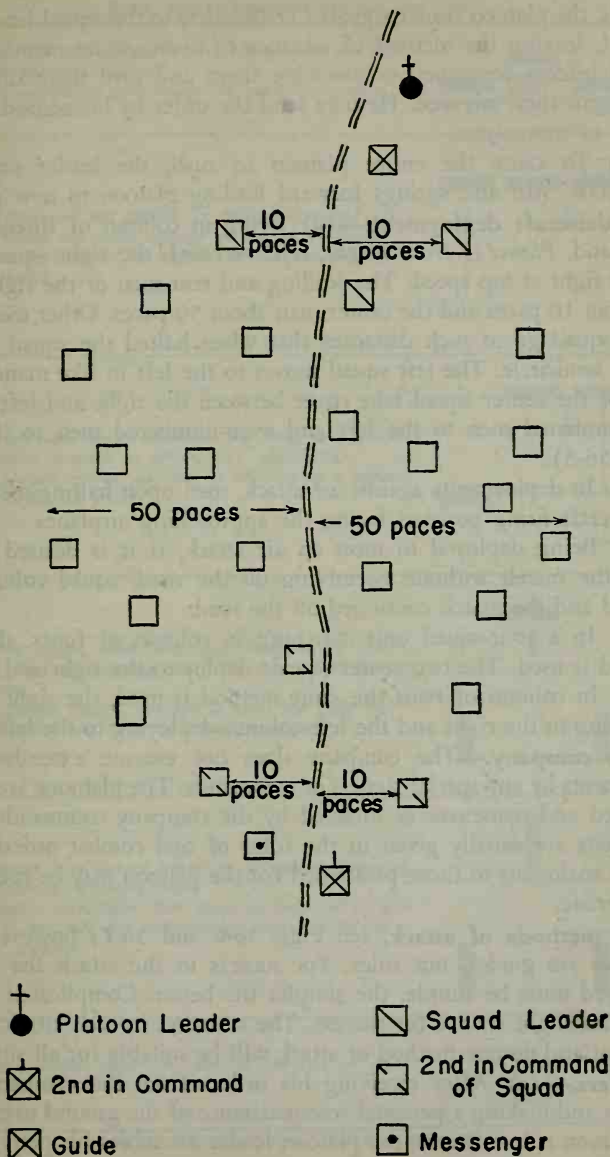

FIG. 56-5—Platoon antiaircraft deployment.
**Antiaircraft deployment.**—(a) Being in column of threes, at the command, *Plane(s) from (right, left, or rear)*, the right squad moves to the right at top speed. The leading and rear men of the right squad go about 10 paces and the center man about 50 paces. Other men of the right squad go to such distances that when halted the squad forms a rough semicircle. The left squad moves to the left in like manner. The men of the center squad take cover between the right and left squads, odd-numbered men to the left and even-numbered men to the right (Fig. 56-5).